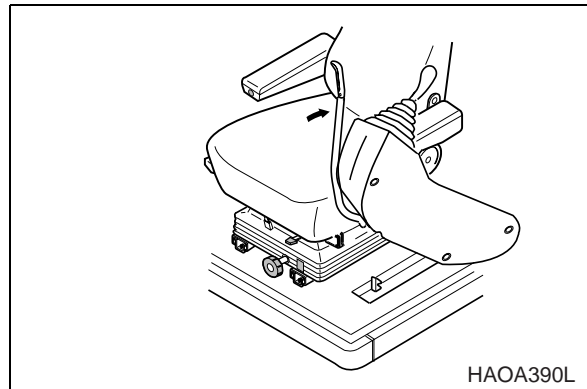

Figure 1
1. Set safety lever on "LOCK" (Figure 1).